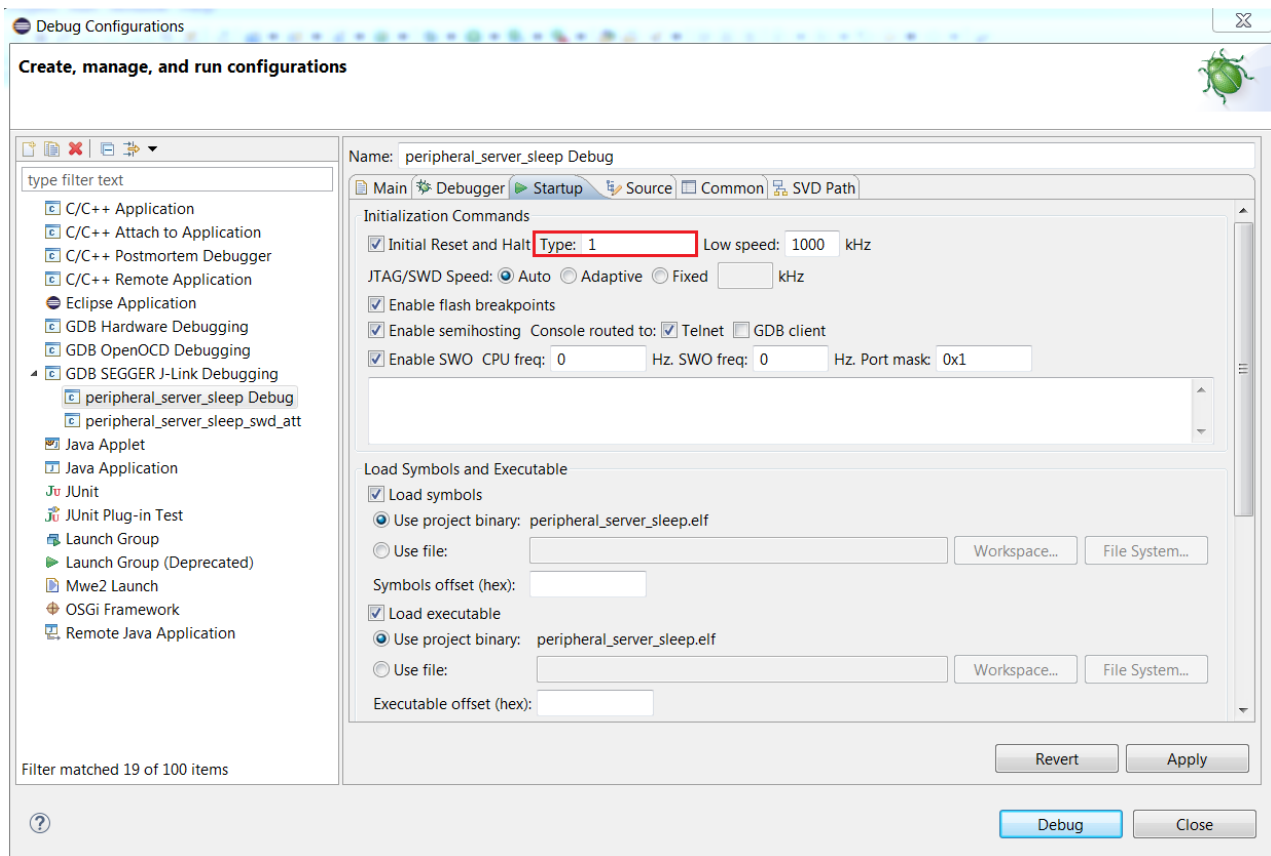

Figure 46. Setting Reset Type in the Debug Configuration Session
- ii. Adjust the displayed values for your configuration and click on **Apply** (see the figure "Setting Reset Type in the Debug Configuration Session" (Figure 46), and the "Startup Tab: Debug Session that Initiates Restart" on page 47).
NOTE: If you are having trouble downloading firmware to the device, in addition to using DIO12, you can also perform the software recovery by setting the **Reset Type** to 1 in the **Debug** session configuration (see the figure "Setting Reset Type in the Debug Configuration Session" (Figure 46)). The default **Reset Type** is 0, which only resets the Arm Cortex-M3 core while leaving the device/peripherals in a state where J-Link can't reconnect. Setting the **Reset Type** to 1 ensures that not only is the Arm Cortex-M3 core reset, but so are all the peripherals. If this does not work, see Section 7.4.1 "Downloading Firmware in Sleep Mode" on page 52.